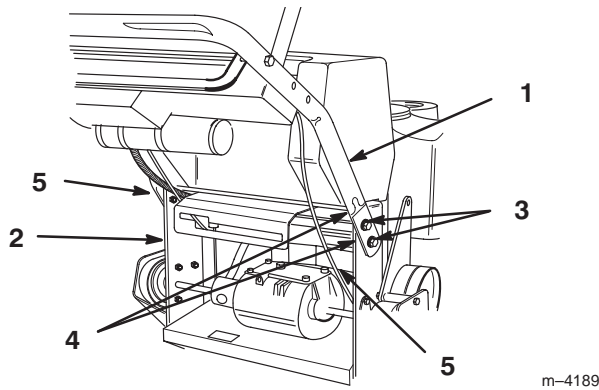

Figure 4
2. Secure each side with (2) 3/8 -16 x 1" (26mm) flange bolts and flange nuts (Fig. 4). Torque bolts to 25 ft. lbs. (34 N.m).
3. Route cables and wire harness inside of frame (Fig. 4)